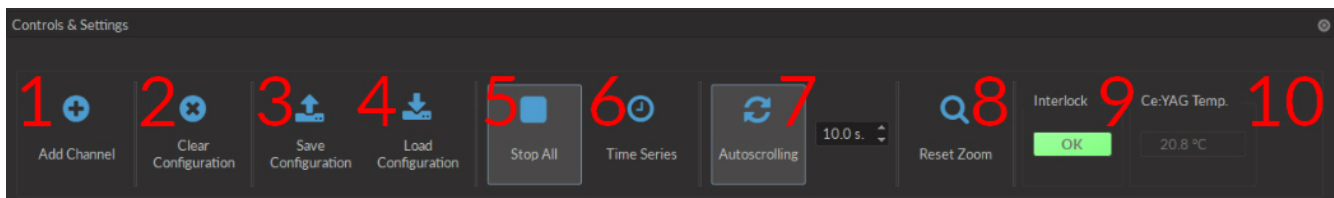

Figure 4.11: Control & Settings
1. The **Add channel** button (Fig. 4.11) opens the **Channel Configuration** window 4.2. See section 4.1 for more details.
2. The **Clear Configuration** button (Fig. 4.11) clears all configuration channels. Cleared channels cannot be recovered unless previously saved.
5. The **Start All** button (Fig. 4.11) starts all currently configured channels.